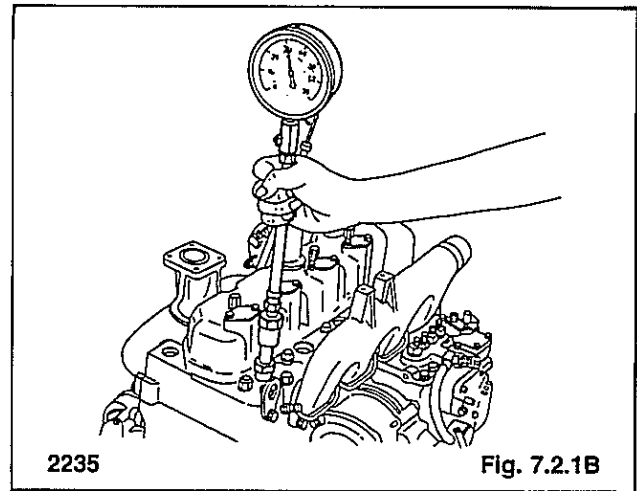

Fig. 7.2.1B
5. Connect a compression tester to the cylinder to be tested (Fig. 7.2.1B).